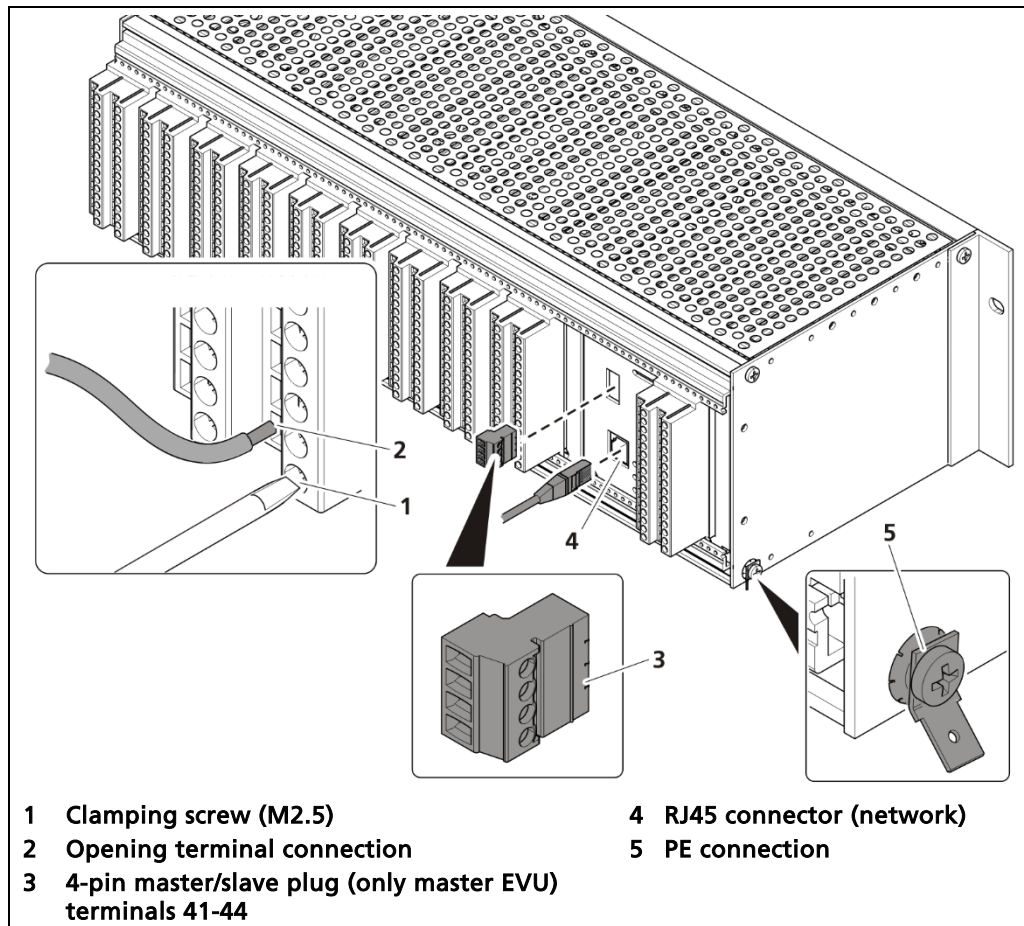

Fig. 22 Electrical connection in the 19" component rack (Ex.: 1x Master, 9xSlave)
2. Open the clamping screw (Fig. 22, item 1) and insert the stripped wire (min. 8 mm).
5. Plug the network plug into the RJ45 socket (Fig. 22, item 4) (optional).
6. Check the correct connection of the PE conductor (Fig. 22, item 5).